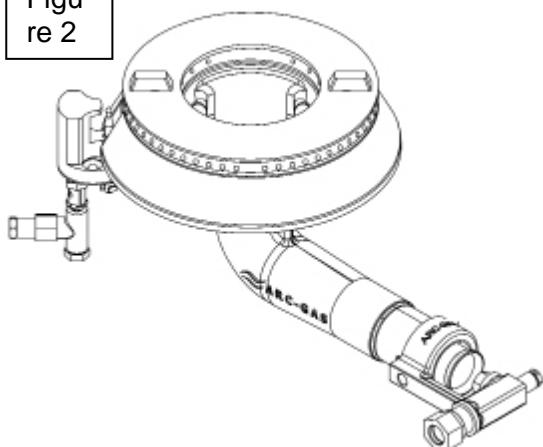

Figure 3
- 3) According to the photo (fig. 3), unscrew the nozzle from the main burner and replace it with nozzles conforming to the "TECHNICAL DATA" table.